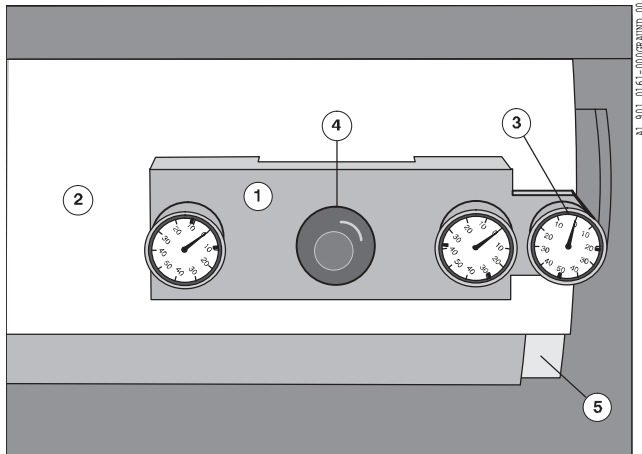

Fig. 29 Measuring the packing thickness
To check the actual final height use the **packing gauge** (Fig. 29/1, *special accessory*). The packing thickness of the blanket cylinder can be determined only in the tensioned condition.
2. Cover the blanket and bearer (Fig. 29/5) with a print sheet (Fig. 29/2), to prevent damage to the blanket.
3. Attach the measuring device parallel to the cylinder shaft so that the feeler of the outer dial indicator (Fig. 29/3) rests at the bearer.
4. Using the red handle (Fig. 29/4), press on the measuring device and set the pointers of the three dial indicators to zero by turning the knurled ring.